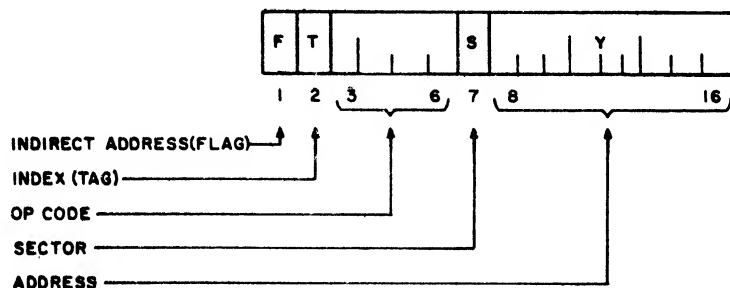

Figure 1-4. Memory Reference Instruction Format
The basic instruction word format in the computer is that for a memory reference instruction, which is shown in Figure 1-4. Bits 3 to 6 contain the operation code, which defines the function to be performed. For example, if bits 3 to 6 contain 0110 (06)₈ the instruction is identified as an add instruction; if they contain 1001 (11)₈ the instruction is a compare. For ease of communication, operation codes are generally expressed either in octal or as a mnemonic. "Subtract," for example, which has an op-code bit configuration of 0111, is referenced in machine language as (07)₈ and has a mnemonic of SUB. The latter is the way the programmer writes an op code when programming in DAP 16, the computer's assembly language.
A memory reference instruction (see Figure 1-4) can utilize several techniques for addressing memory: direct addressing, indexing, and indirect addressing. Indexing and indirect addressing may be specified in the same instruction, and indexing may be pre- or post-indirect addressing. Multilevel indirect addressing is provided.